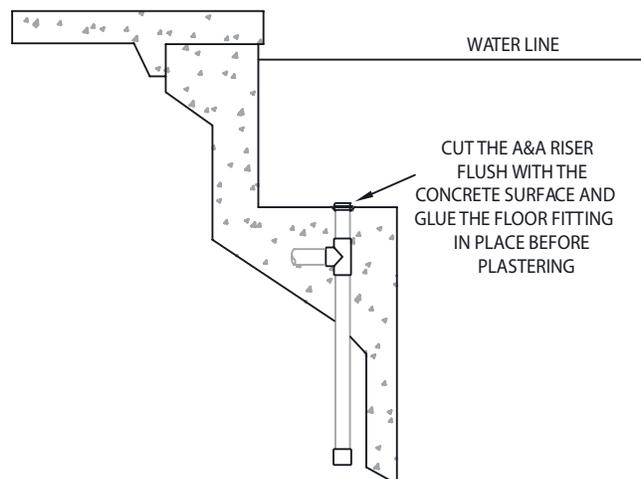

Figure 2
6. Using the same color floor fitting housing as used in the floor cleaning system, glue the fittings in place. (See Figure 2)